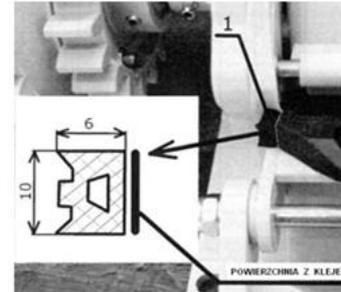

Fig. 13.3
2. sealing the gap between the left side of the rubber cap and the housing of the dispenser with a tape [1] Fig.13.3 in the place and dimensions shown.